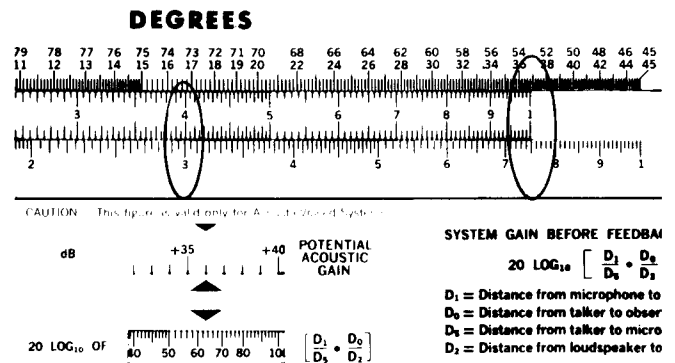

Figure 7
4. Again, using Side Two of the calculator, place 100 on the "C" scale opposite 75 on the "D" scale and then find what number appears on the "D" scale opposite 40 on the "C" scale (see Figure 7).